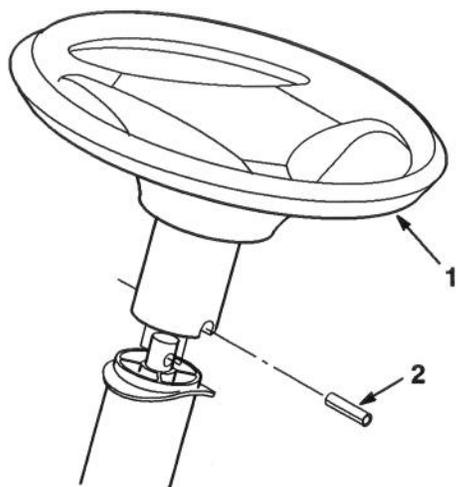

Figure 3
2. Slide the steering wheel over shaft. Line up the hole in the steering wheel with the hole in the shaft (Fig. 3). From the seat you should be able to read the brand logo on the steering wheel.
4. Using a hammer, drive the roll pin in until it is flush with the outside of the steering wheel (Fig. 3).